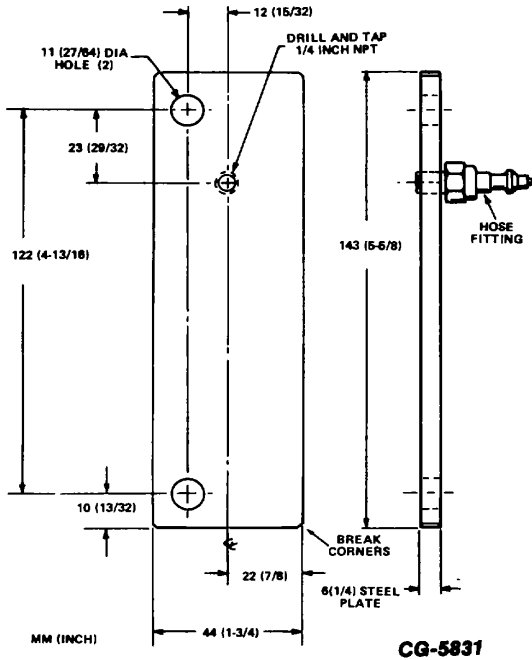

Figure 11. - Pressure Plate with Air Coupling
- a. Construct two plates as specified in Fig. 11 and 12.